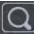

Figure 28 Example of the Default Push Button Soft Panel — Landscape
**Figure 28** is an example of a Push Button soft panel set to landscape.